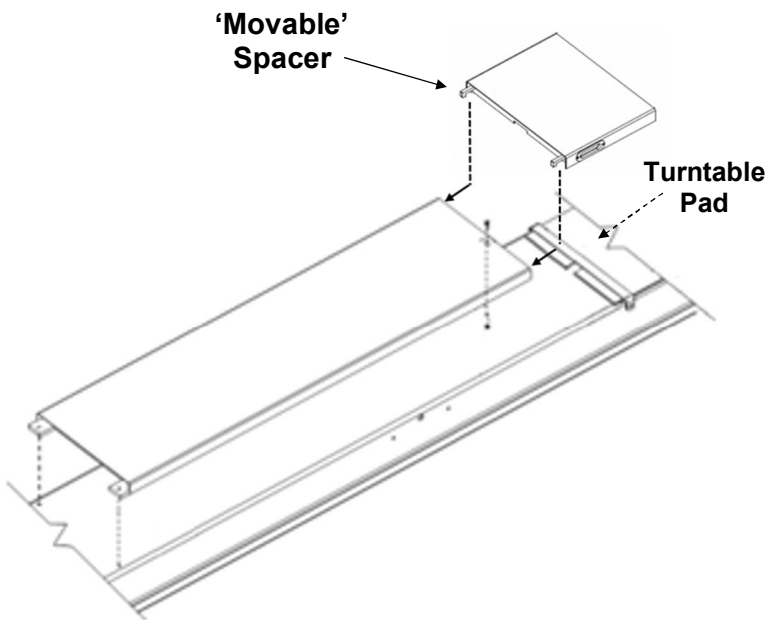

Fig. 5
- 6) Position Movable Spacer (#4) on Runway behind Turntable Pad. Insert the hooks of Movable Spacer into the holes of the Long Spacer - **Fig. 5.**